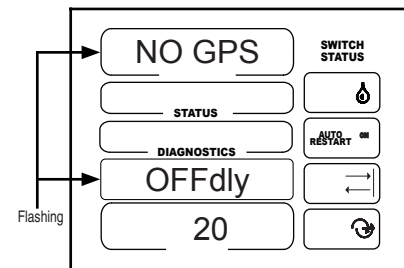

Figure 50-1
1. NO GPS OFFdly should be flashing. See figure 50-1.